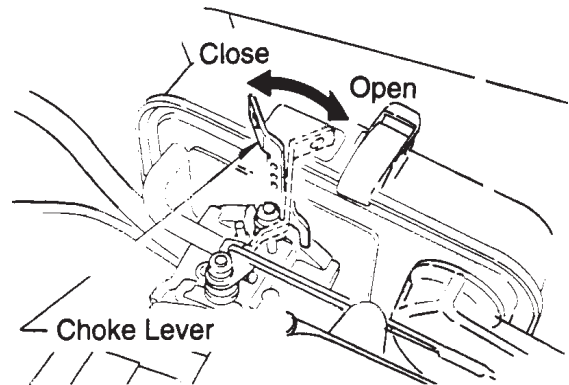

Figure 7. Choke Lever
3. Close the choke lever (Figure 7) and move the throttle lever to the "**Full Open**" position. Turning the choke lever 90 degrees clockwise closes the choke. In cold weather, start the unit with choke fully closed. In warm weather or when the engine is warm, the unit can be started with choke halfway or completely open.
5. If engine fails to start, move the choke lever (Figure 7) to the half open position to avoid flooding.